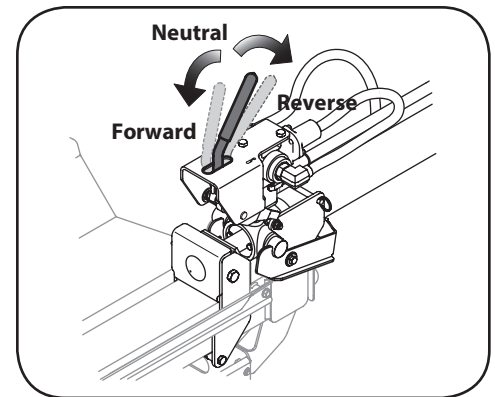

Figure 4-6
3. Move the hydraulic valve control FORWARD until the ram touches the log. Release the hydraulic valve control to NEUTRAL position to stop the ram movement. See Figure 4-6.